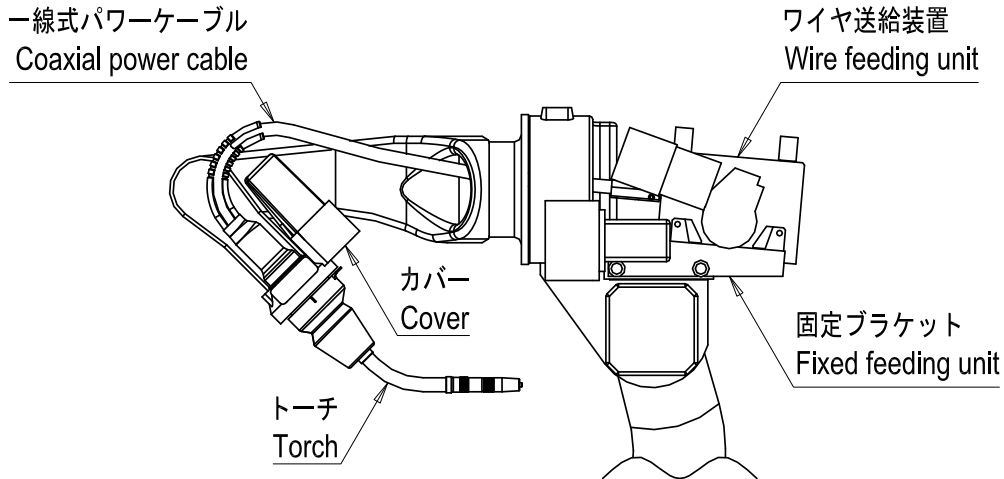

Fig.4.15 Adjustment of the coaxial power cable (For B4 type manipulator)
- (1) Mount a torch, wire feeding unit (fixing bracket), and coaxial power cable.
- (2) Operate the 5th axis to the maximum (soft limit) toward the manipulator's inner side as shown in Fig.4.15.
- (3) Operate the 6th axis to the maximum (soft limit). (Either in the + or – side.)
- (4) Adjust the fixing bracket in the above posture so that the coaxial power cable does not collide with the cover (see Fig.4.15).